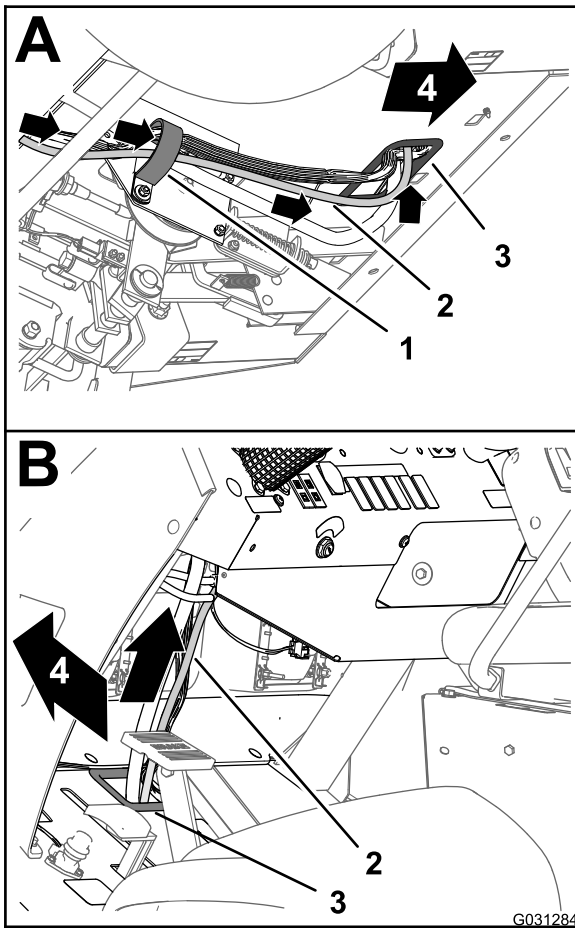

Figure 167
3. Route the route the 220 cm (86-5/8 inches) branch of the data harness forward and up through grommet that surrounds the hole in the floor panel (Figure 167).
4. Route the route the 220 cm (86-5/8 inches) branch of the data harness up and along the front wire harness of the machine (Figure 167).